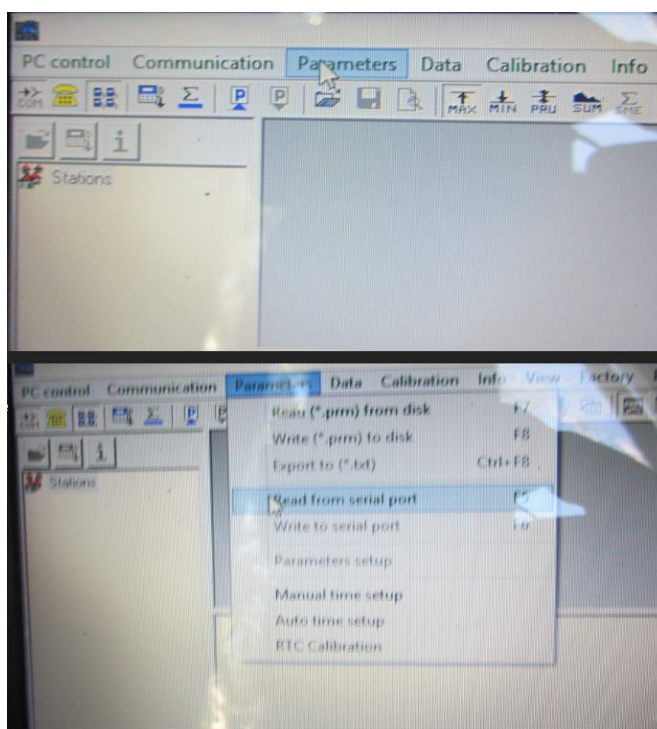

Fig. 6
g. Din fereastra ***Parameters*** alegem obținea ***Read from serial port*** (fig. 6).